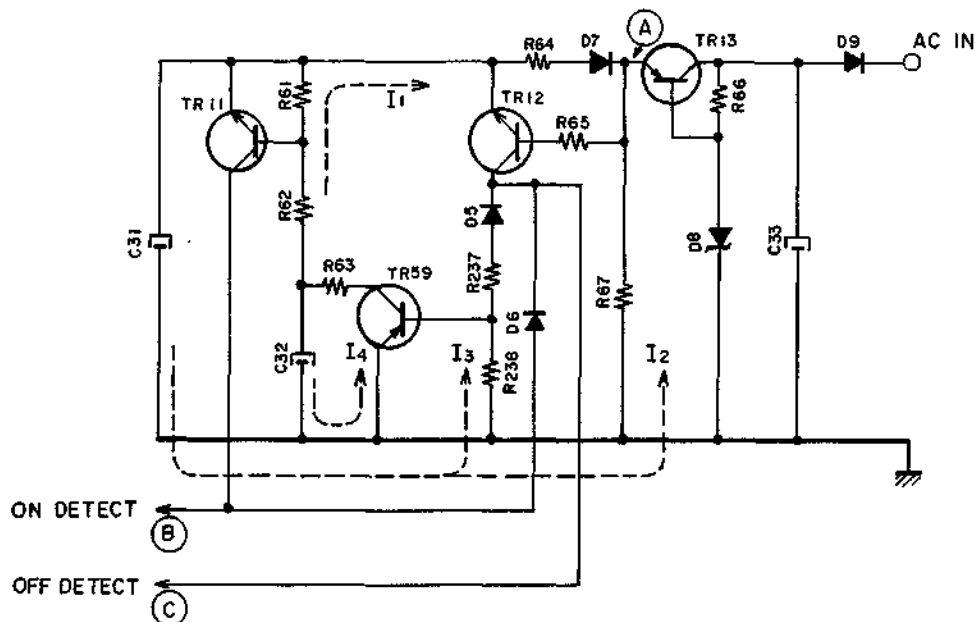

Fig. 6-7
6-7. POWER ON/OFF DETECTOR (Refer to Fig. 6-7) (See Amplifier Schematic Diagram)
- 1) When the power is turned ON, the potential at point ① becomes negative and the charging current I_1 drains as in Fig. 6-7. Then the potential at the base of TR11 becomes negative as well (for about 1.2 sec.).
- 2) When the power is turned OFF, the potential at point ① rises and becomes 0. The discharging
current I_2 from C31 drains as in Fig. 6-7 and the base potential of TR12 becomes higher than the emitter's and TR12 is turned ON.